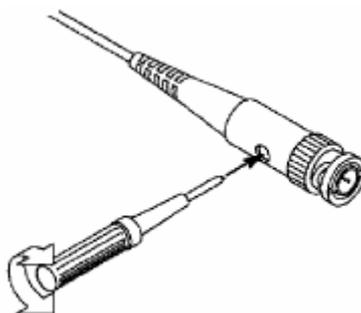

Fig. 4-6 Adjust Probe
2. Check the displayed wave forms and regulate the probe till a correct compensation is achieved (see Fig.4-5 and Fig.4-6).